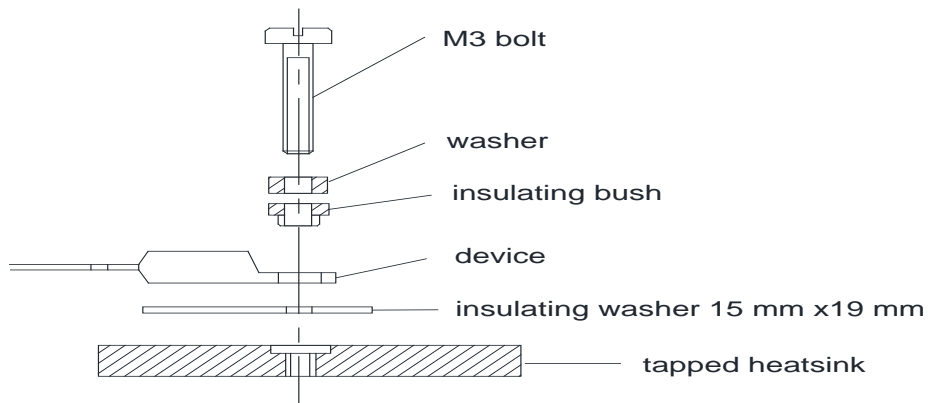
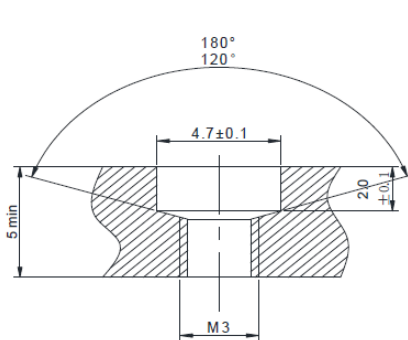
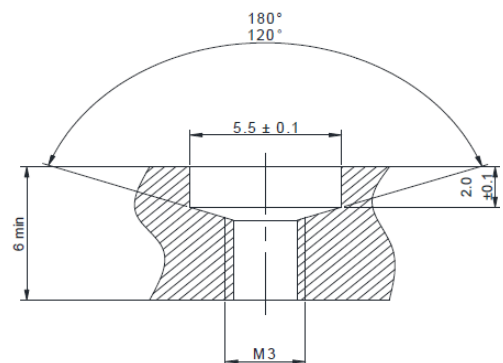

Fig. 12 Insulated screw mounting with washer into tapped heatsink
Fig. 13 Heatsink requirements for 500V insulation
Fig. 14 Heatsink requirements for 800V insulation
- Into tapped heatsink, as shown in Figure 12. Corresponding heatsink requirements for 500V insulation are shown in Figure 13; Corresponding heatsink requirements for 800V insulation are shown in Figure 14.